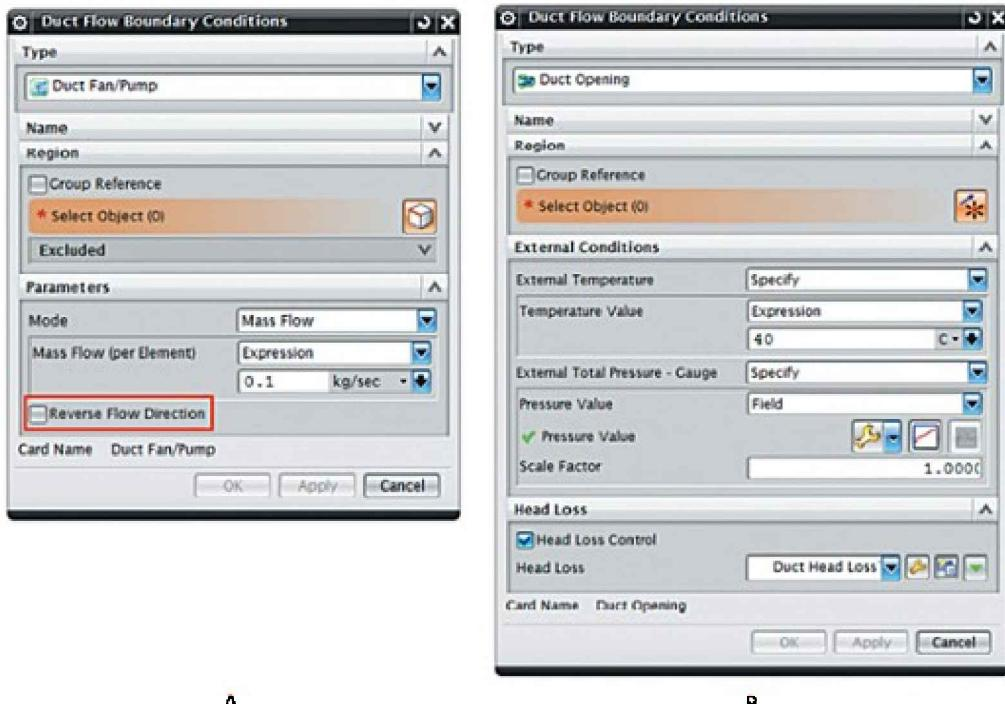

Figure 5.8. Specifying Duct Fan (A) and Duct Opening (B) boundary conditions
- **Duct Fan/Pump.** Specify (volume or mass) flow rate, velocity or pressure head created by a fan or a pump in the conduit. If necessary, you can reverse the flow direction in the duct. Note that you cannot reverse the direction by specifying a negative velocity or flow value. To reverse the direction, select the *Reverse Flow Direction* check box as shown in Figure 5.8, A.
values, in the *External Temperature* list and the *External Total Pressure – Gauge* list, select the desired value. You can enter pressure and temperature only as a constant value or a function of time. You can additionally specify head loss at the boundary. To specify head loss, use the **Create Modeling Object** tool (Figure 5.8, B). To make this option available, select the *Head Loss Control* check box. This tool is described in detail in para. 5.5;